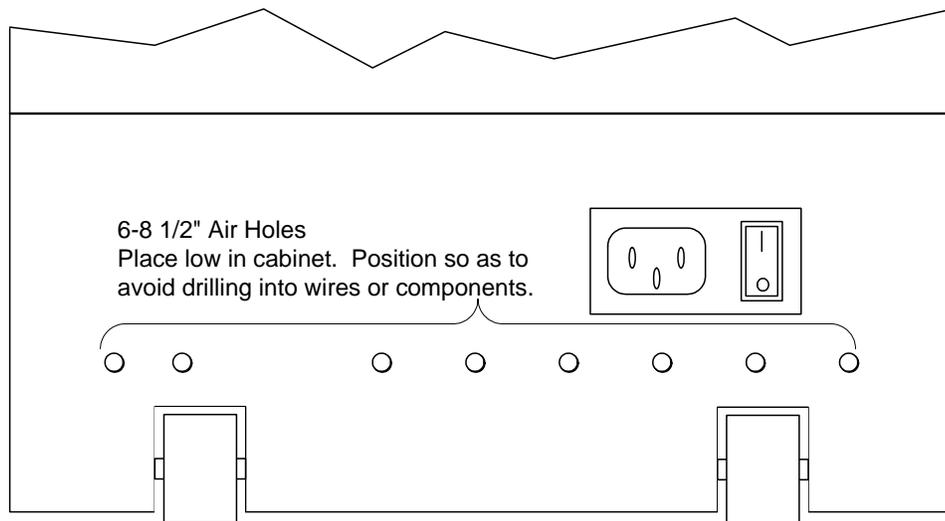

Figure 2. Drilling Cabinet Air Holes
1. Using a 1/2" drill bit, drill six to eight air holes in the lower rear of the cabinet, as shown in Figure 2. Be careful not to damage any wires or components while drilling.